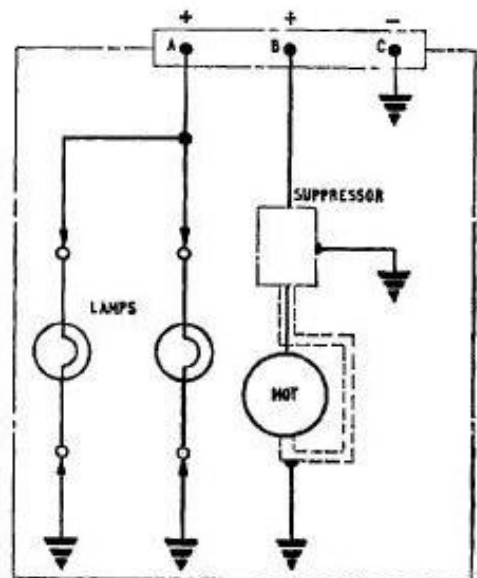

Fig. 1. Circuit diagram
1. The anti-collision lamp, Type G7740-8-24 is similar to that described and illustrated in the main chapter but has minor constructional differences and incorporates a connector plug AN3102A-10SL-3P for electrical connection instead of the two-way terminal block. The connector is mounted on the base of mechanism cover. A circuit diagram is given in fig. 1.